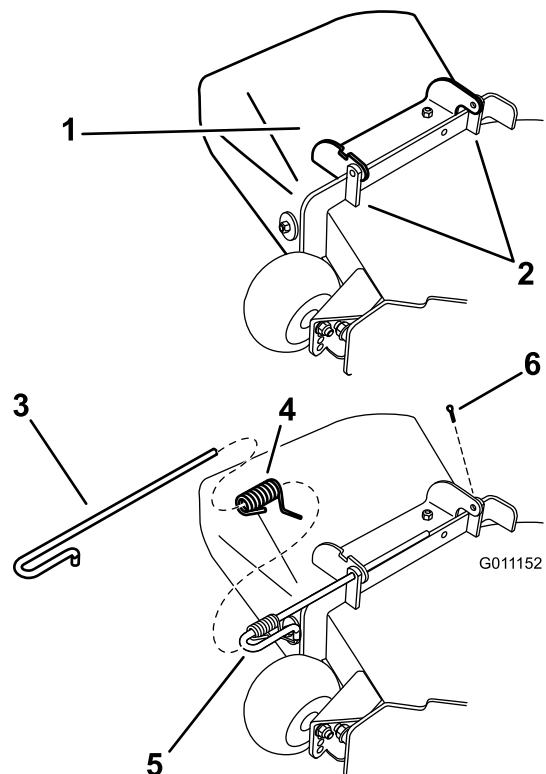

Figure 70
1. Remove the cotter pin from the rod (Figure 70).
2. Disengage the spring from the notch in the deflector bracket and slide the rod out of the welded deck brackets, spring, and discharge deflector (Figure 70). Remove the damaged or worn discharge deflector.
3. Position the new discharge deflector assembly with the bracket ends between the welded brackets on the deck as shown in Figure 70.